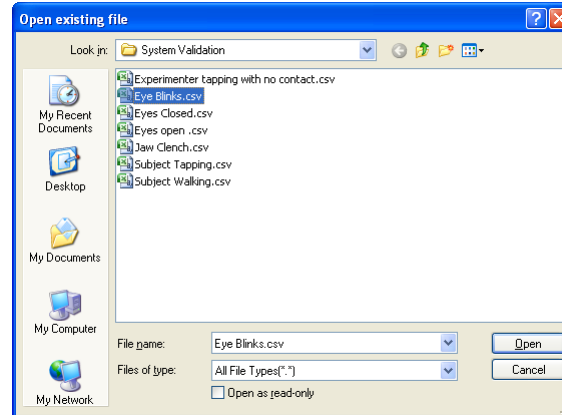

Figure 25 – Open existing file dialog window.
- Press the **Play** button to open an “Open existing file” dialog window (Figure 25).